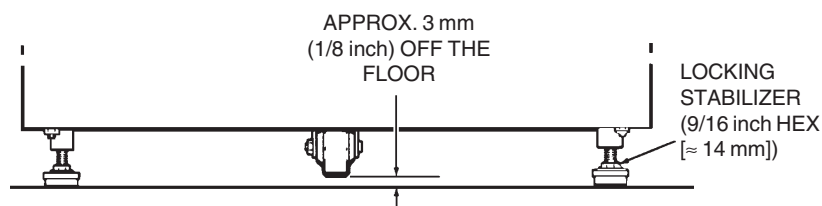

Figure 2-3. Front Locking Stabilizer Adjustment
3. By hand, lower the two locking stabilizers in the front of the centrifuge until they lightly contact the floor. Use the 9/16-inch wrench (supplied with the centrifuge) to rotate each stabilizer an additional two revolutions. This will raise the front caster about 3 mm (1/8 inch) off the floor. Check that the centrifuge does not rock on its four support points, the two front stabilizers and the two rear casters (see figure 2-3). **Read the CAUTION.**